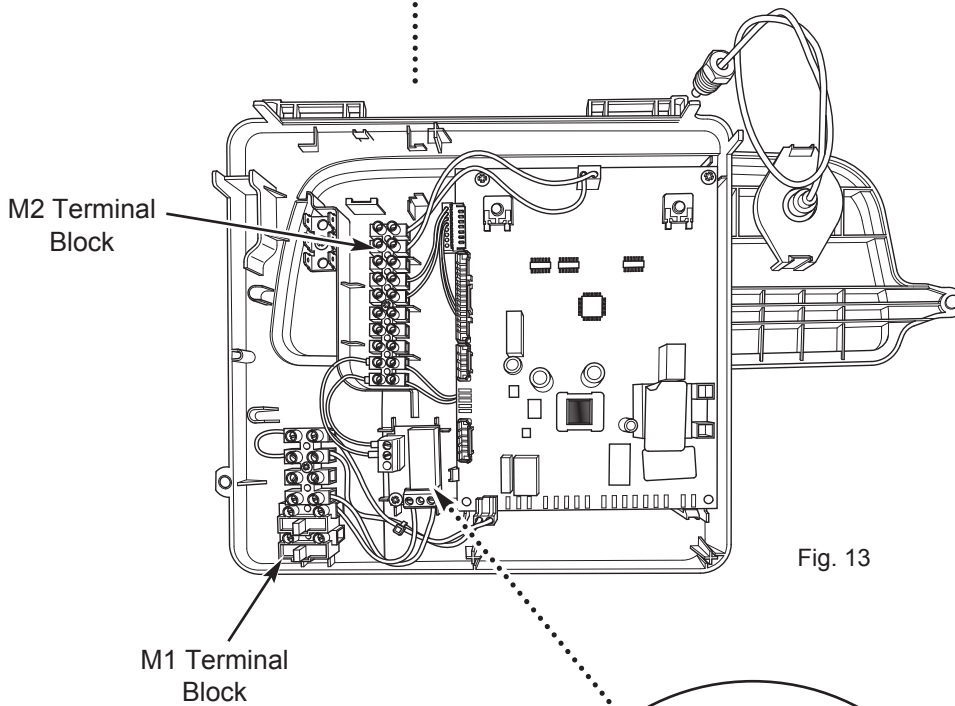

Fig. 13
5. Install the relay PCB in the location indicated (Figs. 13 & 14) and secure with screw provided.